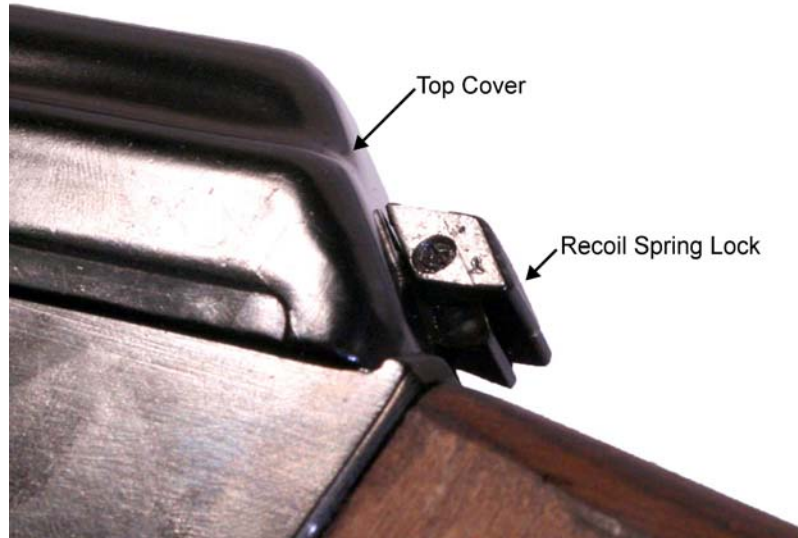

Figure 22. Two-Piece Recoil Spring Lock.
- b. If the weapon has a top-piece recoil spring lock, after the lock sticks out the hole in the rear of the top cover lift up on the recoil spring lock to secure the top cover in place. Refer to Figure 22.